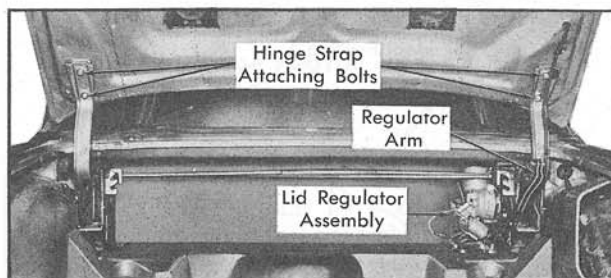

Fig. 17-53 Rear Compartment Lid Hinges
6. Remove two bolts securing each hinge strap to rear compartment lid, Fig. 17-53. With aid of helper remove lid.